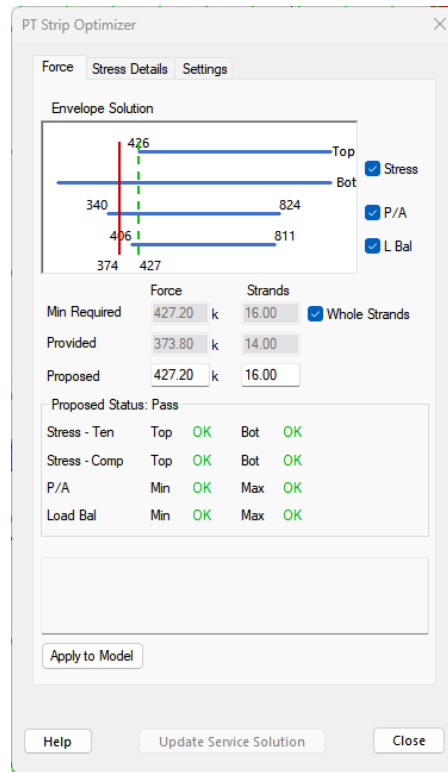

FIGURE 9-101
- At this point the *PT Strip Optimizer* window should be open to the Force tab. With results populated as shown in **FIGURE 9-101**.